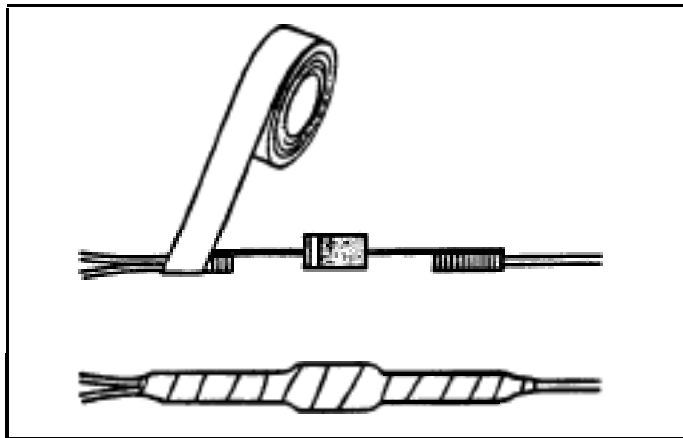

Figure 9. Insulate the soldered joints and diode.
8. Insulate the soldered joints and the diode by means of insulating tape, Figure 9.